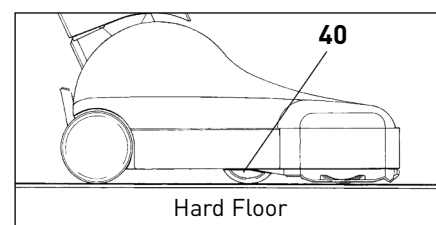

Figure 8
## The Adjustment Wheel - Figures 8 & 9
On hard floors (figure 8), the adjustment wheel (40), moves upward into the machine so that the brush lowers and becomes flush with the floor.